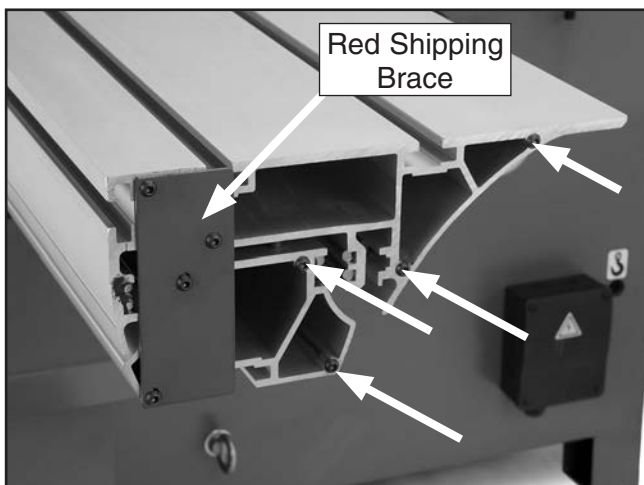

Figure 21. Sliding table.
1. Remove the red shipping brace (**Figure 21**) and the screws indicated. Set the screws aside for use in the following steps.